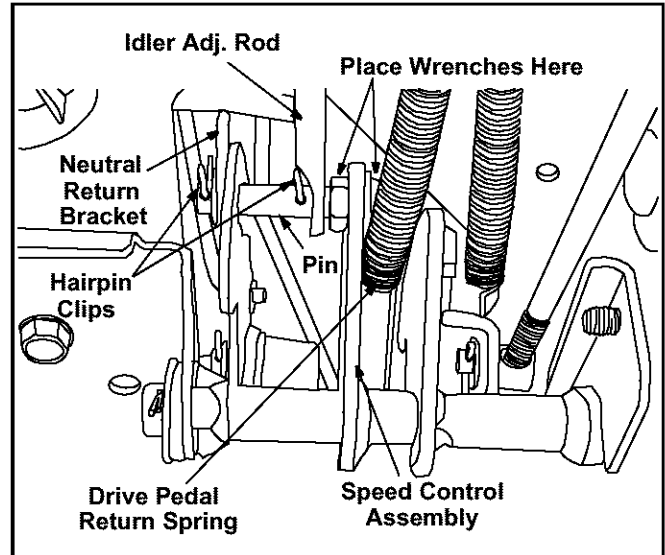

Figure 18
- Locate the speed control assembly on the underside of the steering support bracket. See Figure 18.
- Remove both hairpin clips from the pin which is fastened to the speed control assembly (be careful not to lose the small flat washers found on the pin). See Figure 18.
Using two 9/16" wrenches, remove the pin from the speed control assembly. See Figure 18.